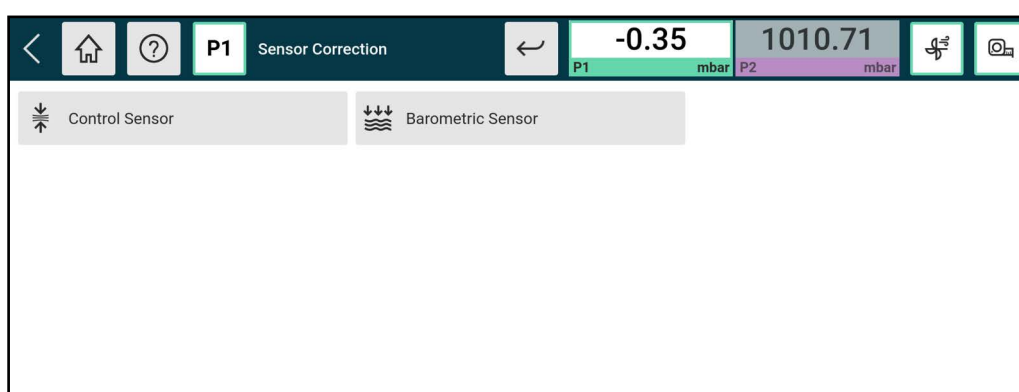

Figure A-7: Sensor Correction Screen
- **Sensor Correction** - selects the **Sensor Correction** screen (see Figure A-7).
Figure A-7 shows the **Sensor Correction** screen, where you select the sensor to be checked or adjusted. This can be the Control Sensor or the Barometric Sensor as shown, or others as fitted to the Control modules. To find this screen, select the **Settings** icon, then **Calibration** and enter the calibration PIN, then select **Sensor Correction**.